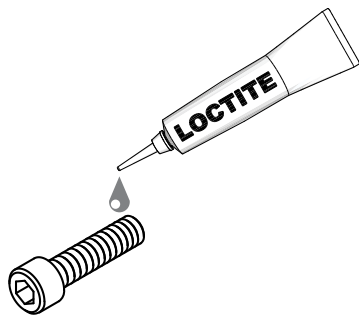

Figure 15. Apply Loctite® 242™ (Spider Bolt)
- Apply Loctite® Blue 242™ (P/N 1477) to the threads on a new M12-1.75 × 30 mm SHC bolt (P/N 939654). See Figure 15.